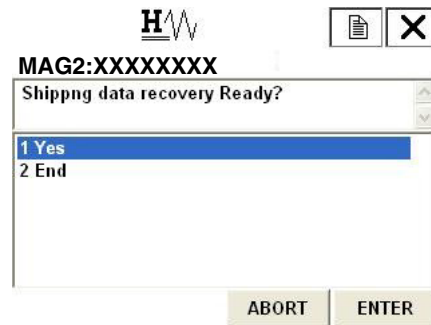

Figure 151.
Figure 151 is then displayed.
2. When executing shipping data recovery, select **Yes** and press F4 (ENTER). Shipping data recovery executes, and the display returns to Figure 151. Press F3(ABORT) to return to the previous menu.